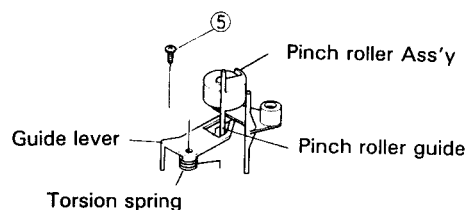

Fig. 5
2. Remove screws (5) fixing the guide lever, then remove the guide lever from the pinch roller guide. (Fig. 5)